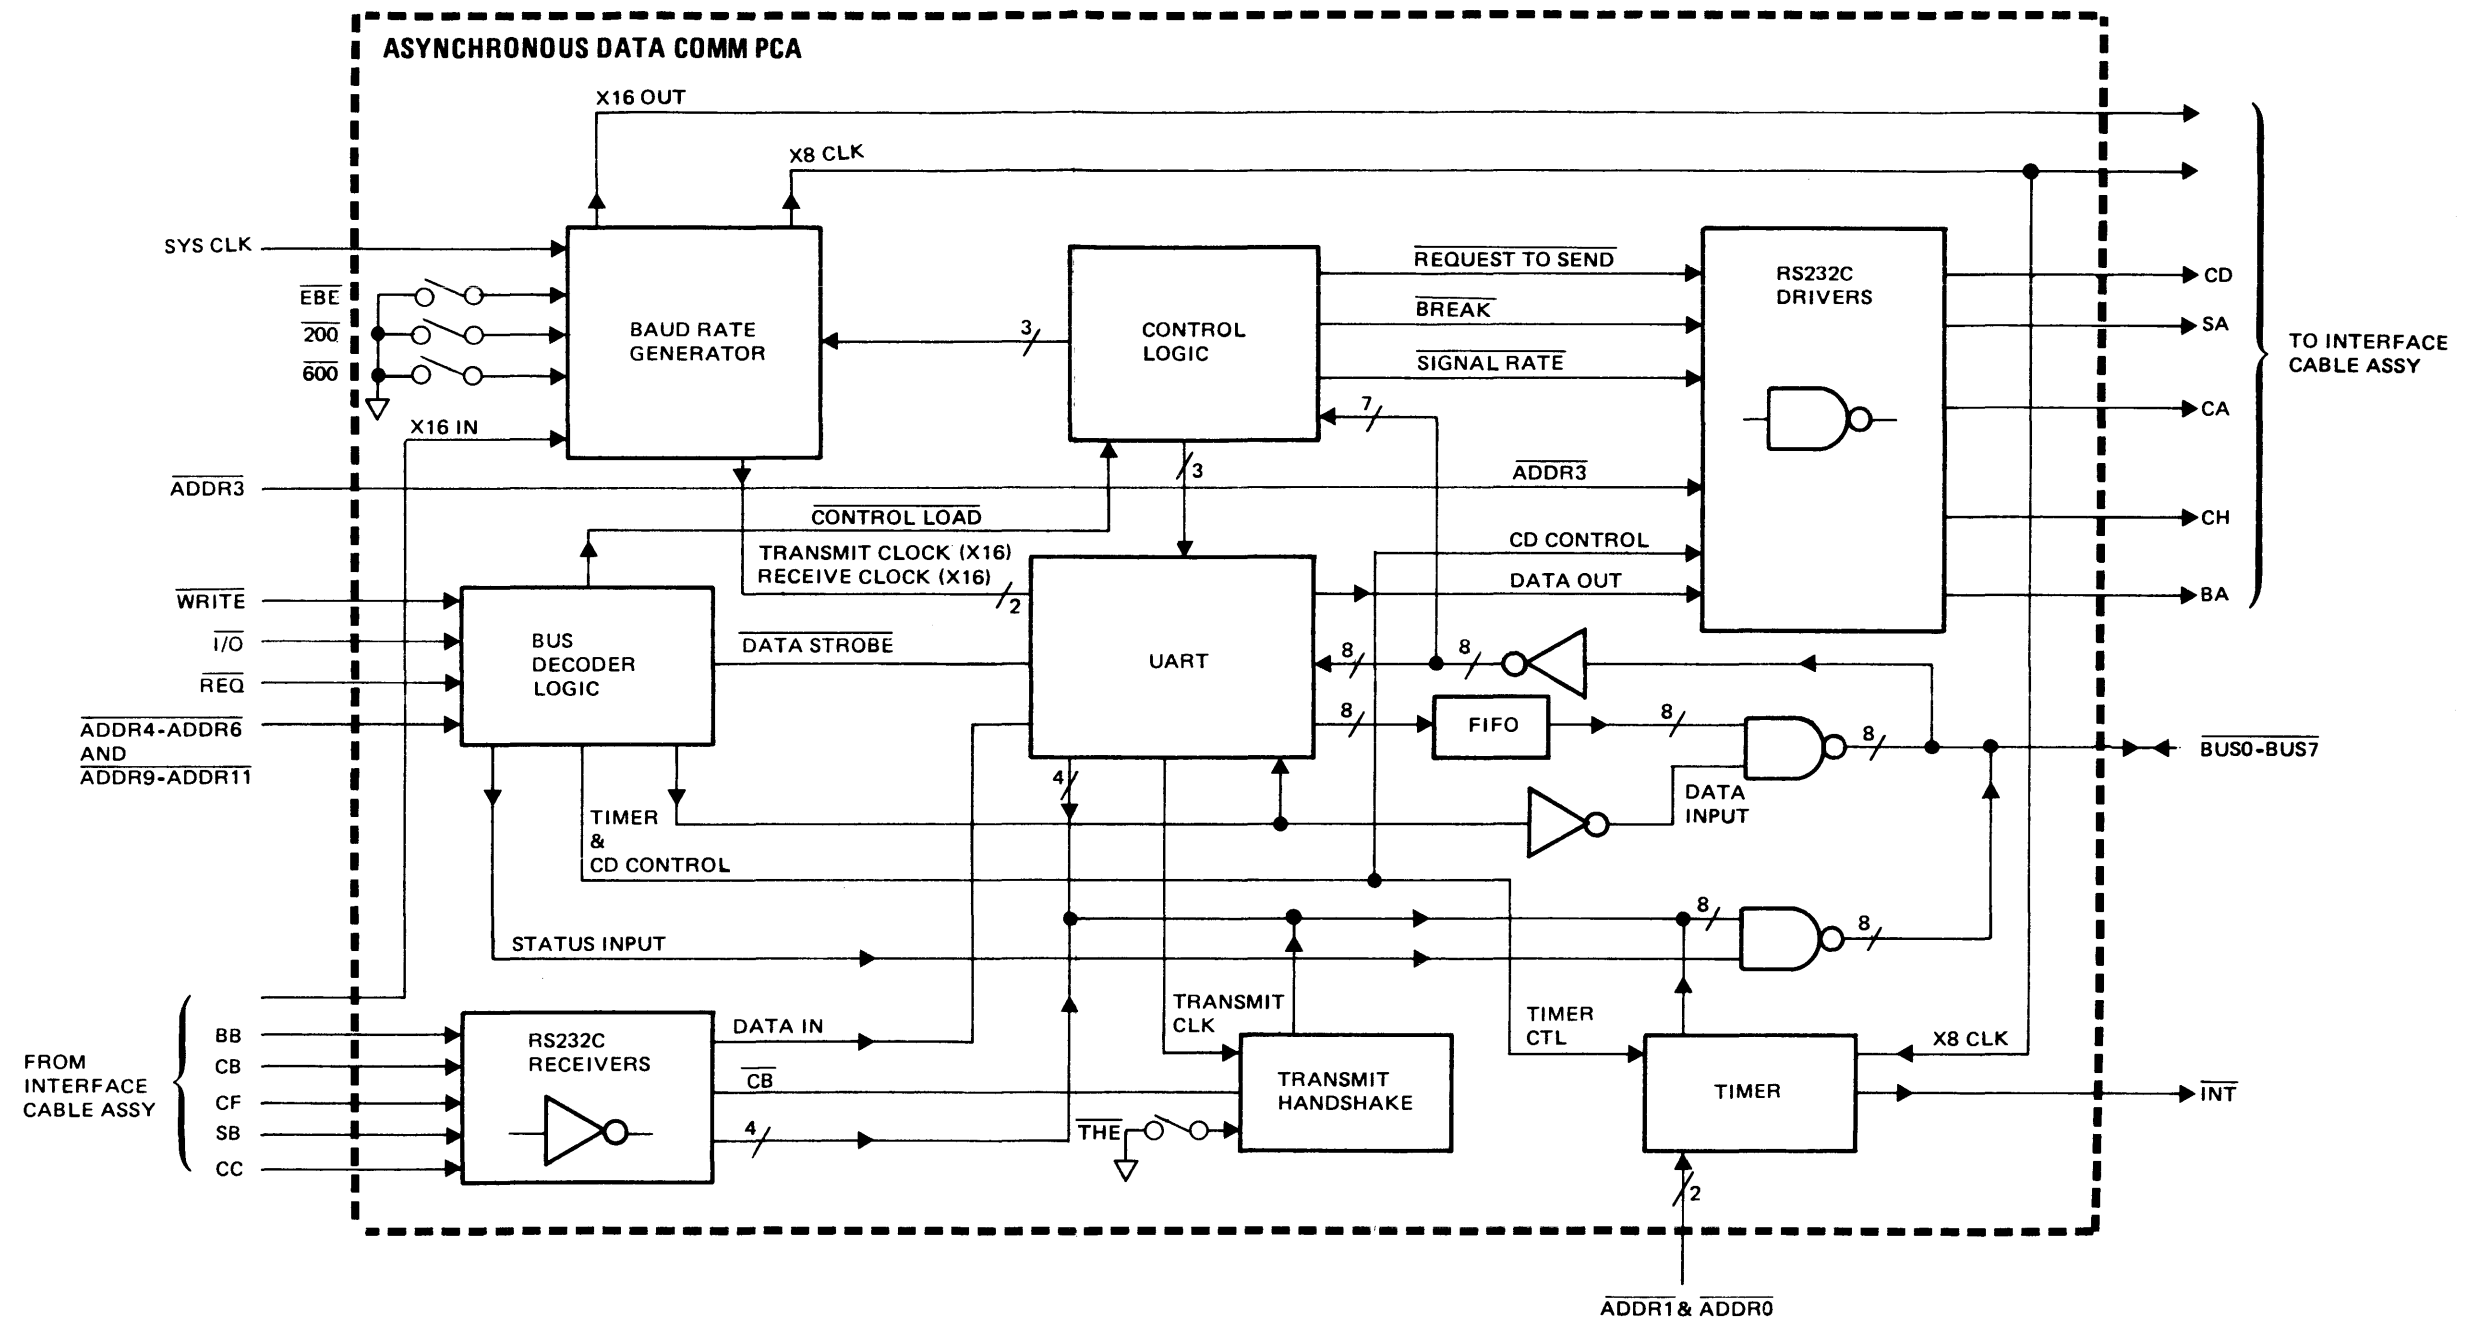
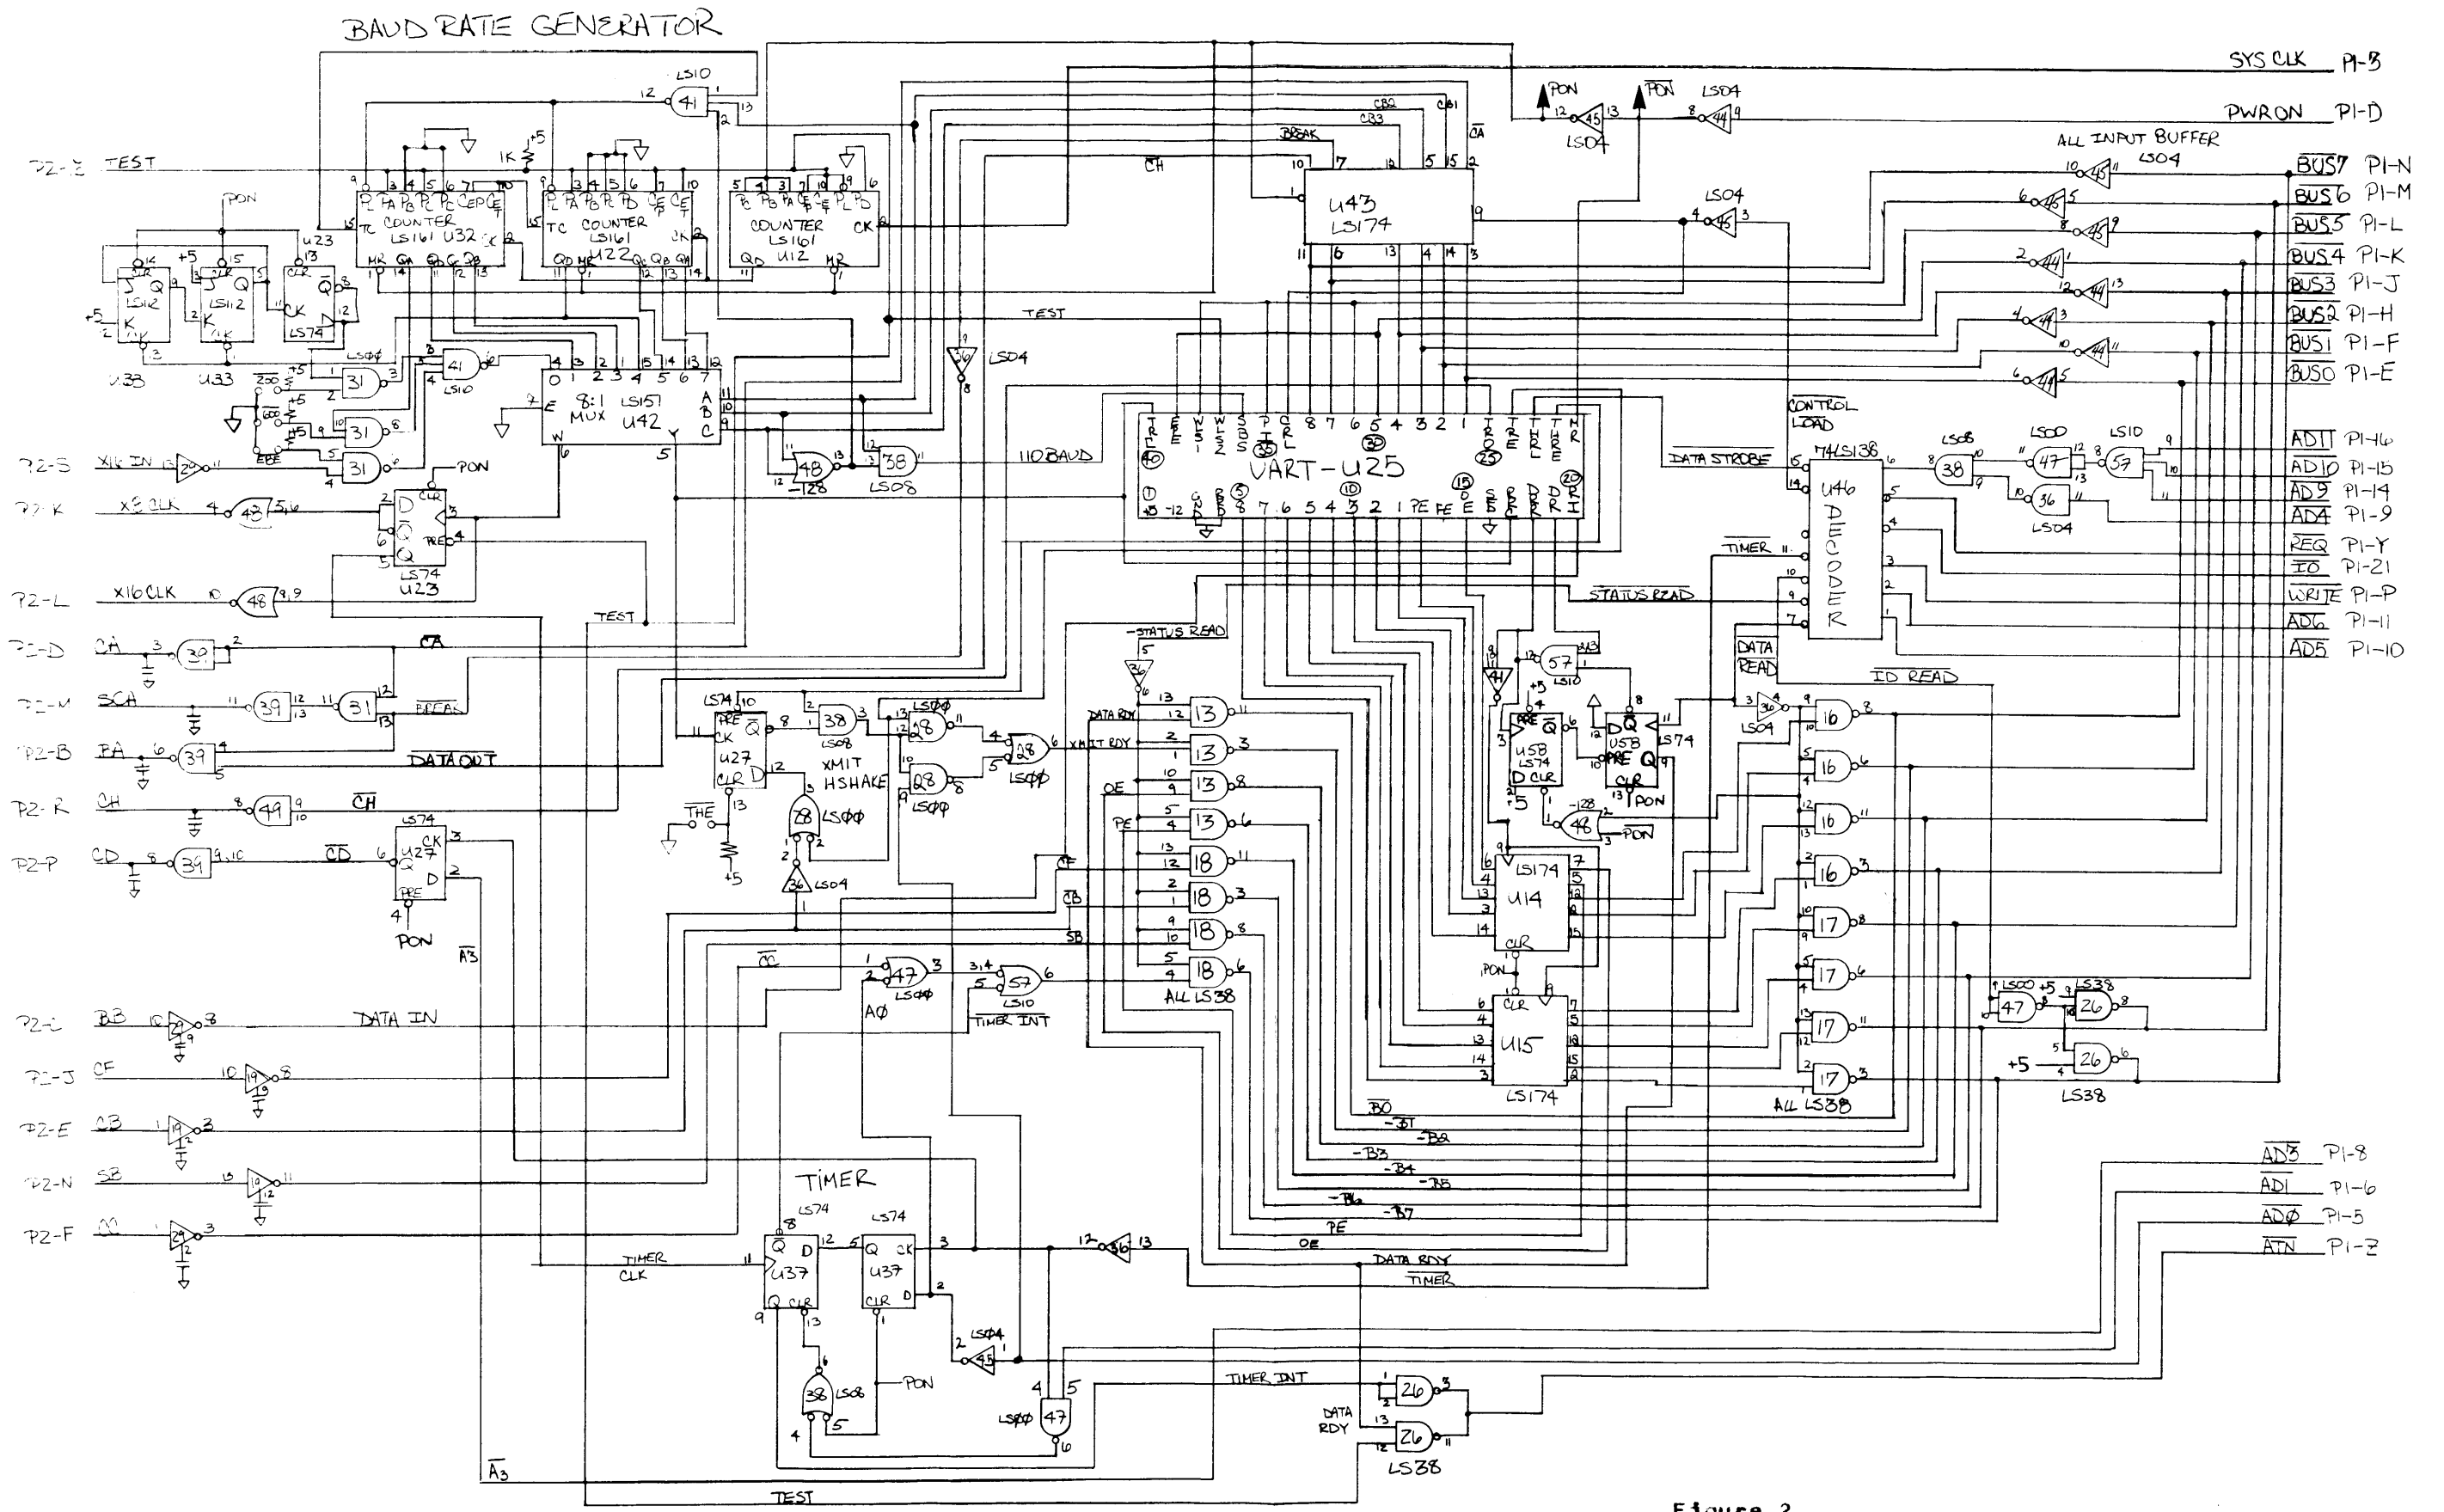
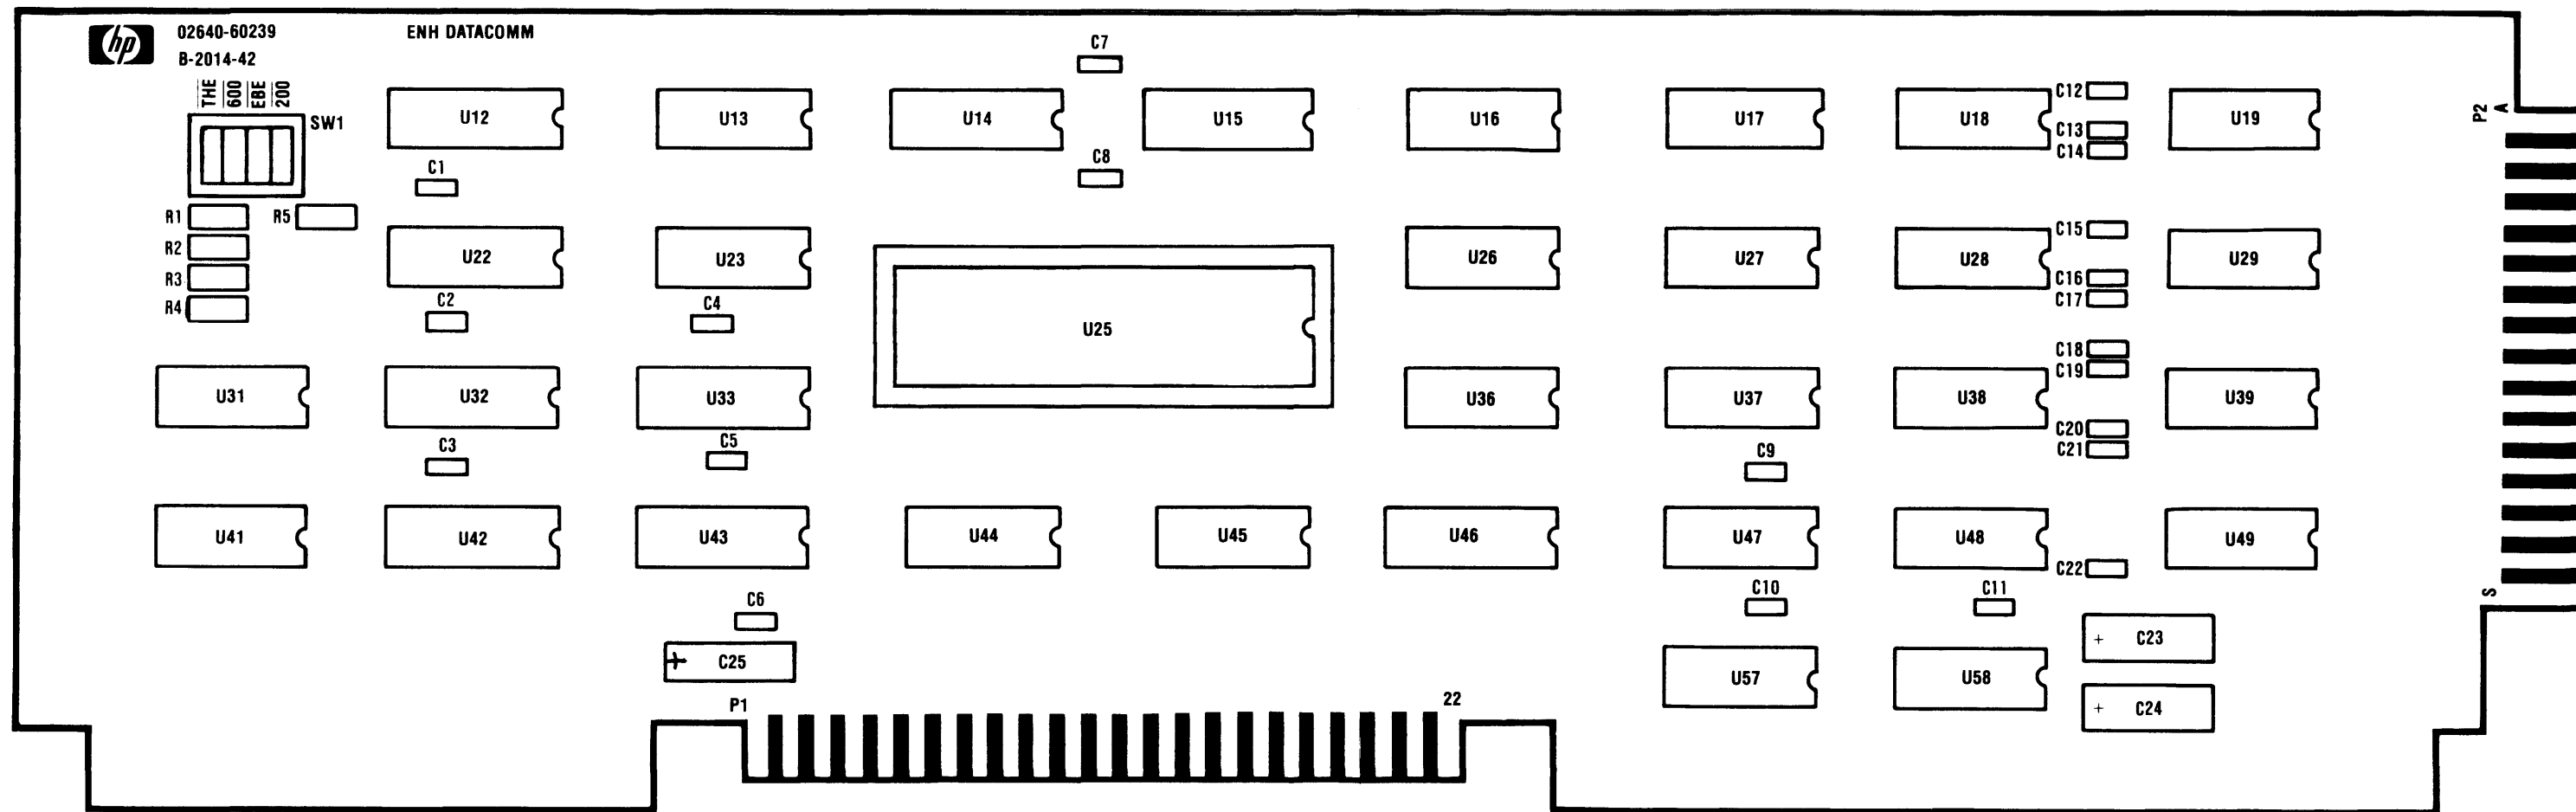

Figure 1
Figure 2
Figure 3
- 3.0 FUNCTIONAL DESCRIPTION. Refer to the block diagram (figure 1), schematic diagram (figure 2), component location diagram (figure 3), and parts list (02640-60239) located in the appendix.